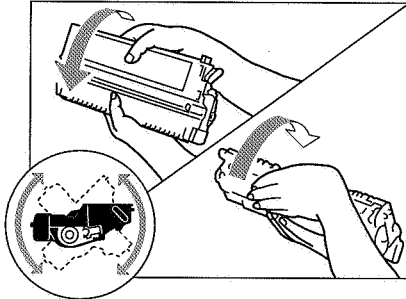

Figure 6-1
- a. When setting the cartridge to the copier or if the toner starts to run short, hold the cartridge horizontally as shown in Figure 6-1, and rotate it in both directions about 90° to even out the toner inside it. Do not shake the cartridge or hold it in a different way; otherwise, toner may leak out the cartridge.